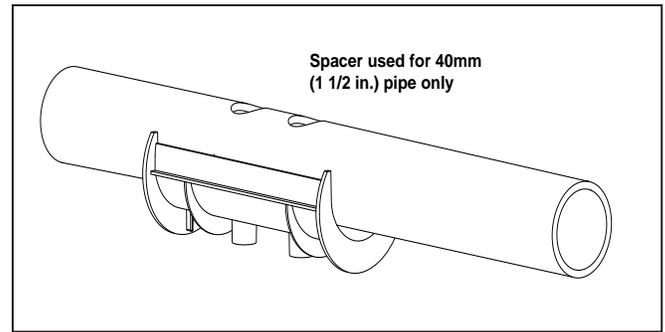

Figure 8. Pipe Spacer
- Use the pipe spacer as shown if mounting on a 40 mm (1½ in.) pipe (see Figure 8).